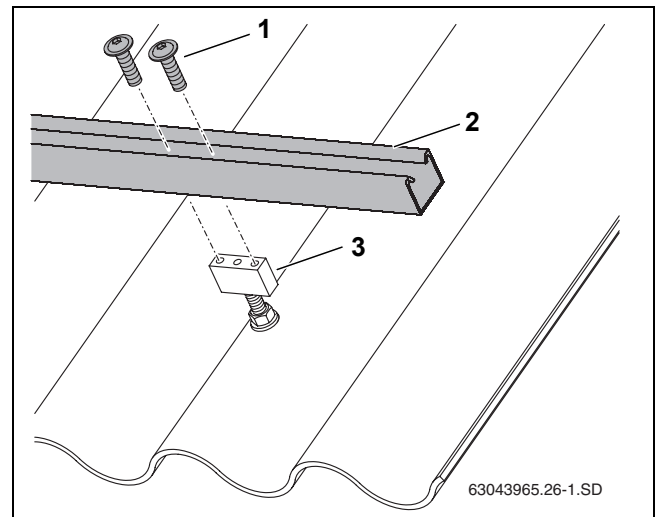

Fig. 24 Fastening the profile rail to the support block
- ▶ Secure each profile rail (Fig. 24, [2]) with two screws each (Fig. 24, [1]).